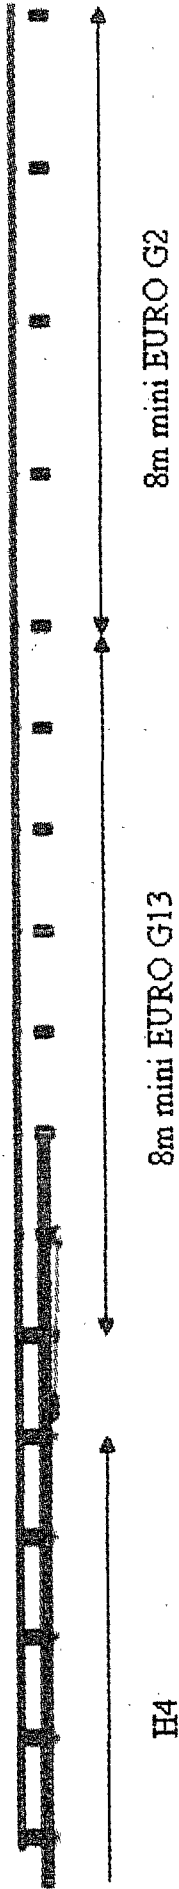

Figure 18 - Raccordement H4-GS solution 1
- Figure 18. - Raccordement Systech H4-GS solution 1.